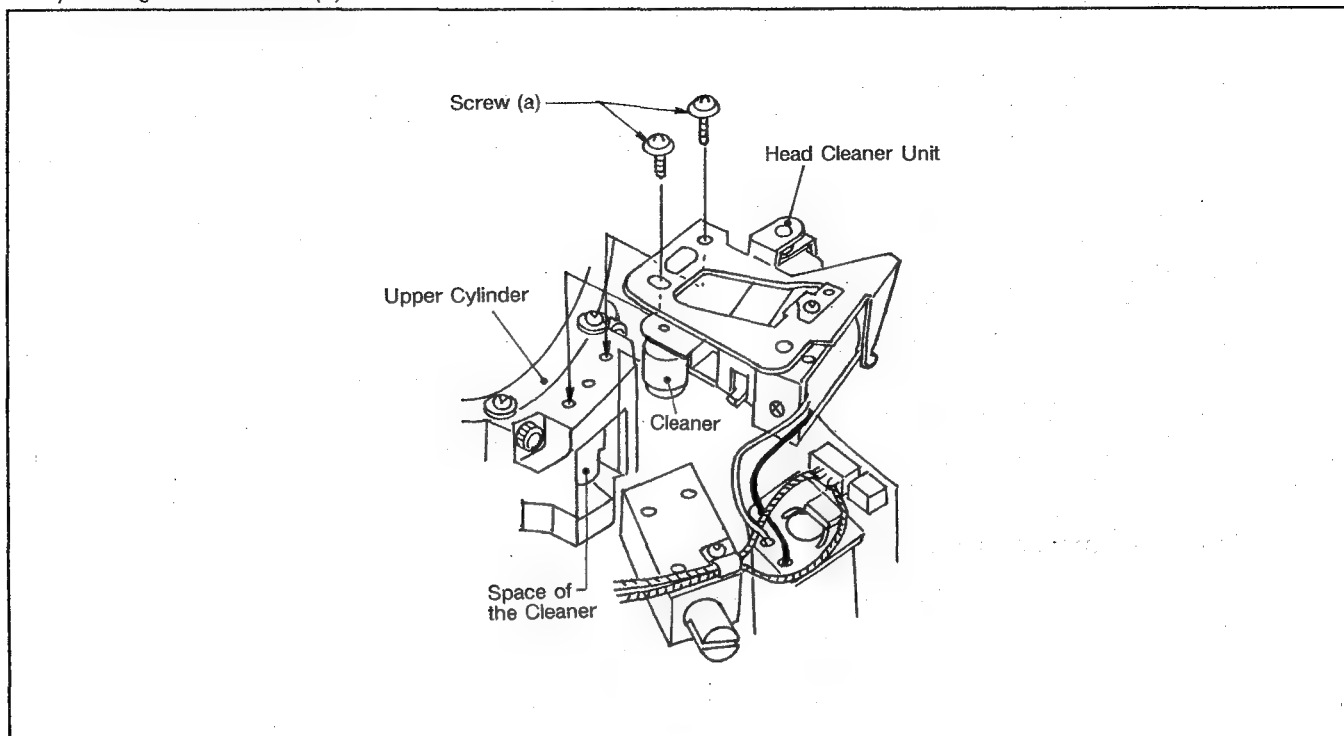

Fig. 7-12-1
- 1) Install the Head cleaner Unit in the junction portion of the Drum so that the cleaner part is fit in the right position of the junction portion as shown in figure 7-12-1.